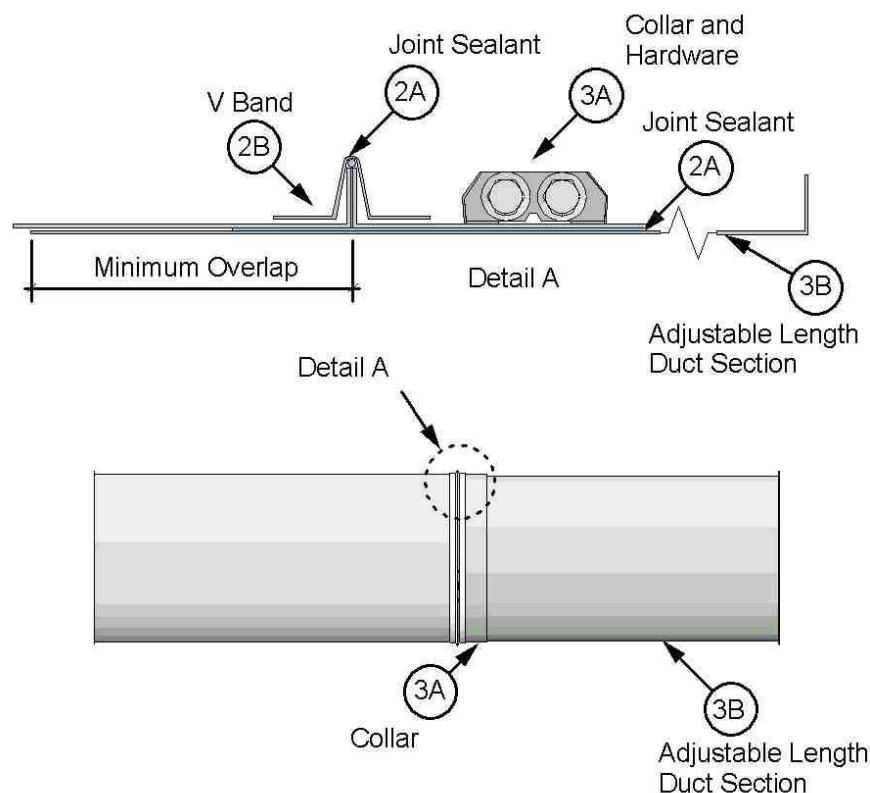

Figure 3. Adjustable Length Joint
3. **ADJUSTABLE LENGTH JOINTS:** Join the pre-fabricated grease duct (Item 1) adjustable length section to standard duct section using the following components and methods, and as shown in Figure 3: